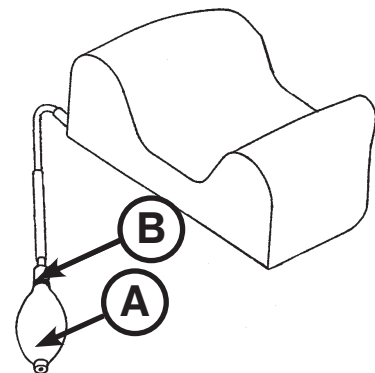

Figure 9: Head Support Cushion
- To inflate the air bladders and provide more stability for the patient's head, squeeze the bulb (A) as shown in Figure 9.
- To deflate the air bladders, press the release valve (B) as shown in Figure 9.